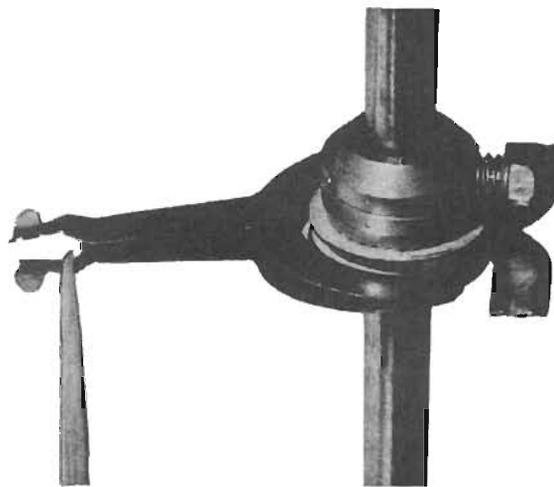

Figure 6. The Above Method is Used When Inspecting Upper and Lower Wiper Tips for Wear.
- 3.05 Inspect upper and lower wiper spring tips for wear (Fig. 6).